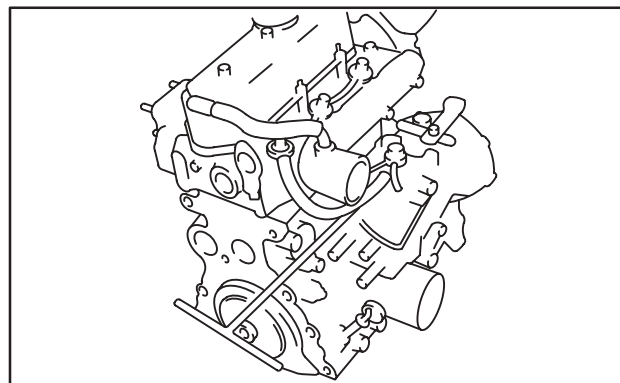

Fig. 7 – Loosen Pump
- Loosen injector pump mounting nuts and pump support bracket screw, Fig. 7. Rotate pump toward cylinder head as far as it will go.